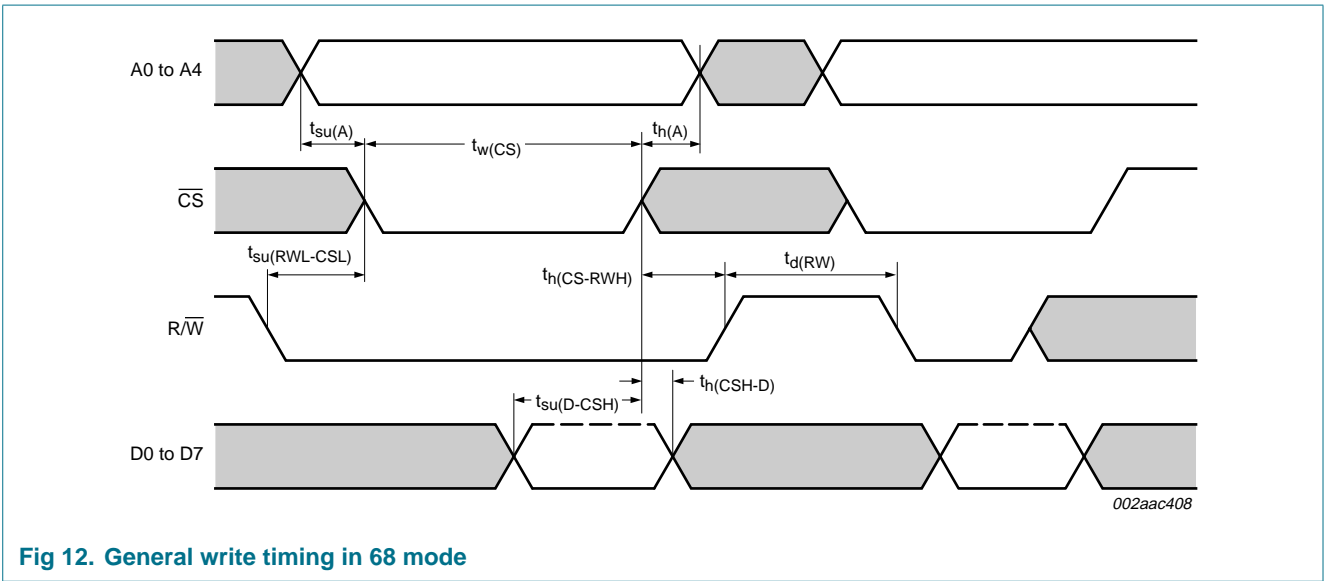

Fig 12. General write timing in 68 mode
- (1) \overline{CS} timing during a write cycle. See Figure 12.